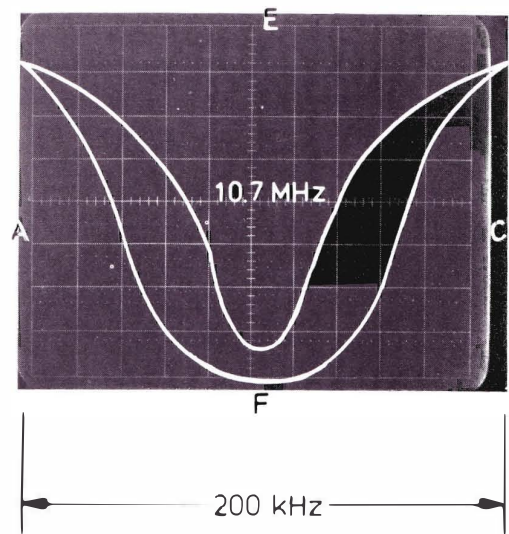

Fig. 20. IF band-pass curves
- Adjust the cores of the other band-pass filters to maximum height of the curve in the sequence indicated in the trimming table (Fig. 20, curve I). The band-pass curve must always be symmetrical with respect to mid-screen (EF, Fig. 20)